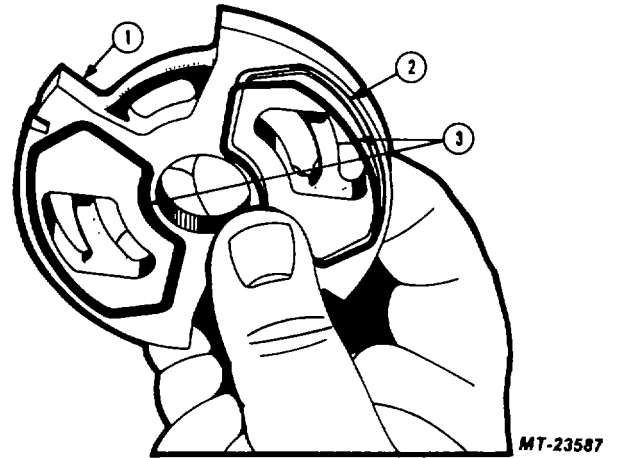

Fig. 25 Installing Pre-formed Gaskets
1. Install new pre-formed gaskets into front end plate, Figure 25. Use a small amount of multi-purpose grease to hold gaskets in place during assembly.